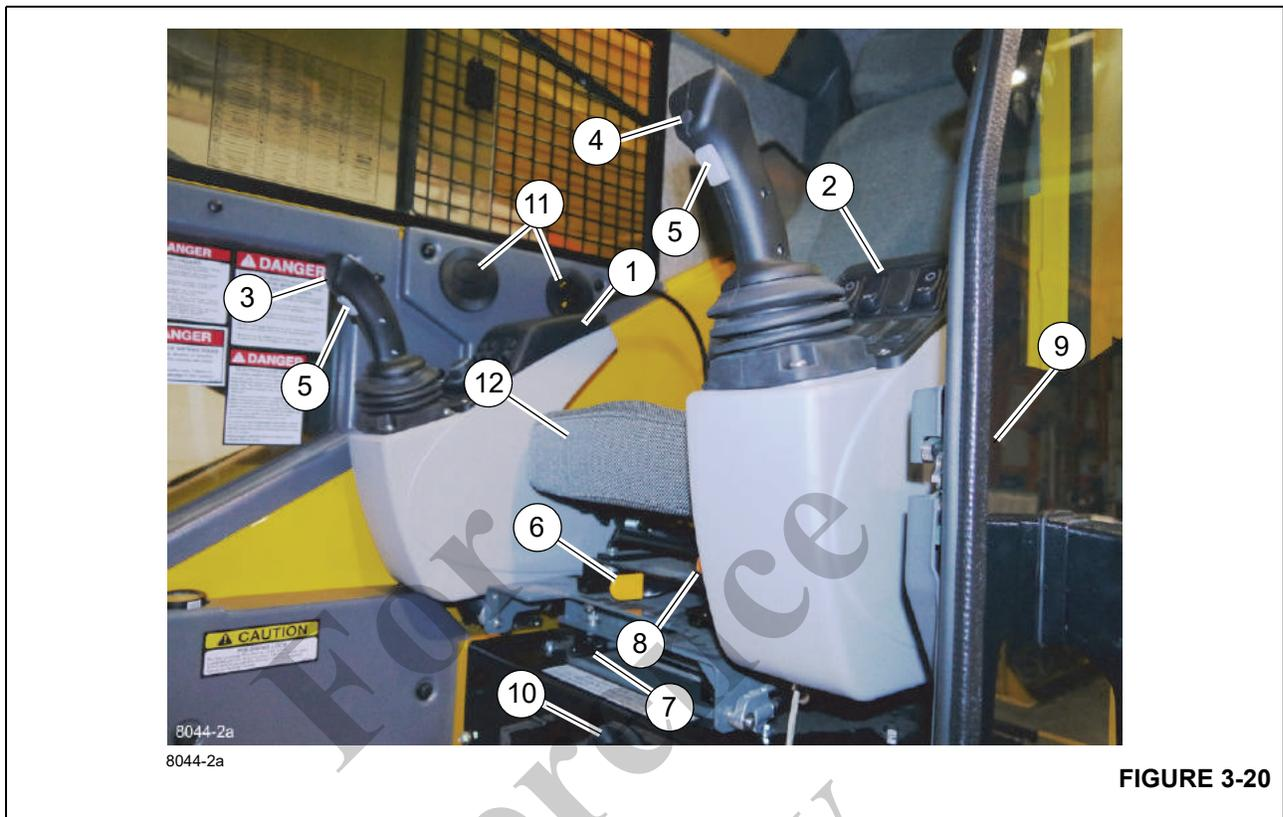

FIGURE 3-20
The Horn Button (3), (Figure 3-20) is located on the upper front of the right controller. The button sounds the horn during crane operations.
The Free Swing Button (4), (Figure 3-20) is located on the upper front of the left controller. Pressing and holding the Free Swing Button releases the Swing Brake and allows the boom to be centered over the load.
The Deadman Switches (5), (Figure 3-20) are located on the front of both control levers. Either of these switches can be used instead of the seat switch to keep crane functions active.
Moving the Seat Slide Lever (6), (Figure 3-20) will enable only the seat to slide, either forward or backward.
Moving the Seat Frame Slide Lever (7), (Figure 3-20) will slide both the seat and the arm rests either forward or backward.
To adjust the height of the seat, lift the height adjustment lever (8), (Figure 3-20) and then adjust the seat as needed.
The Air Conditioner/Heater Climate Unit (10), (Figure 3-20) is located in the cab under the operator's seat. The HVAC vents (11), (Figure 3-20) are part of the climate unit and can be adjusted to direct the flow of air. Vents are also remote mounted as shown in (Figure 3-20).